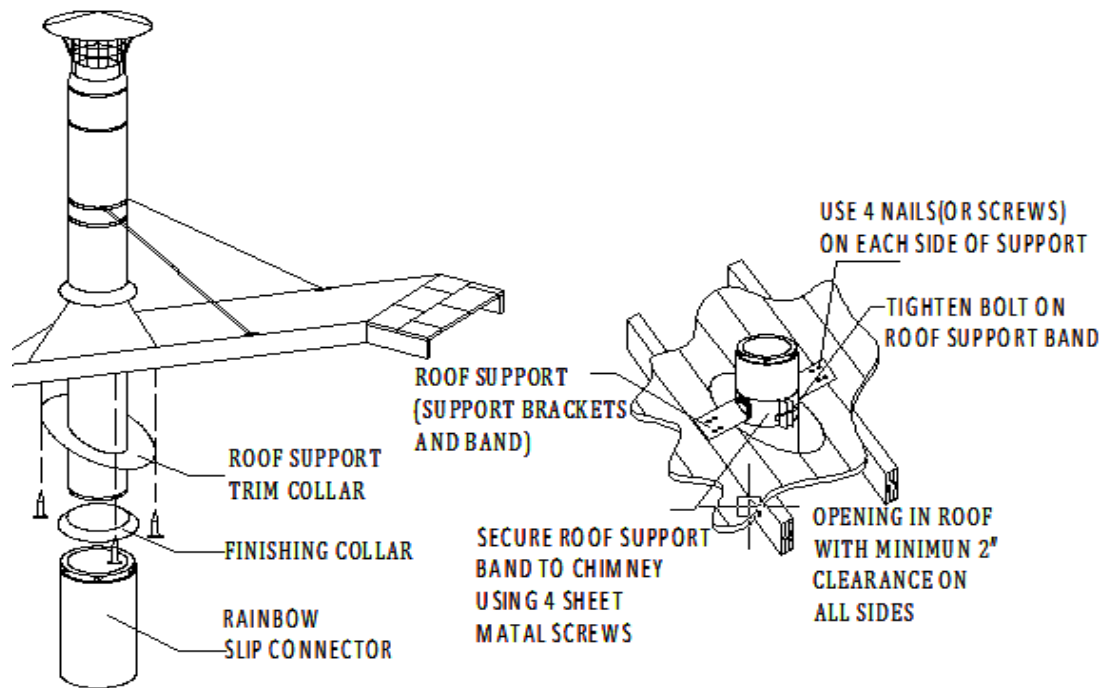

Fig 18
(2) A Roof Support is used in installations where there is a cathedral ceiling, and a Square Ceiling Support is not desired. The Roof Support allows the EVHST to come down into the room below the level of the ceiling (Fig 18). The Roof Support can support a maximum of 45 feet of EVHST total, and maximum of 20 feet below the support.
2. Bolt on the Roof Support Brackets to the Roof Support Band using the supplied hardware. Attach the Roof Support Brackets to roof using (4) 8 penny nails or (4) #8, 1-1/2" screws per side (Fig 18).
4. Attach desired length of Chimney Sections above and below the roof level (max. of 45' total, 20' below the support) (Fig 18).
3. Determine how much EV-HST chimney will be extending into the room (minimum of 3" below the framing), and attach the Roof Support Band to the Chimney Section by tightening the Bolt, and secure it with supplied hardware (Fig 18 & 19).